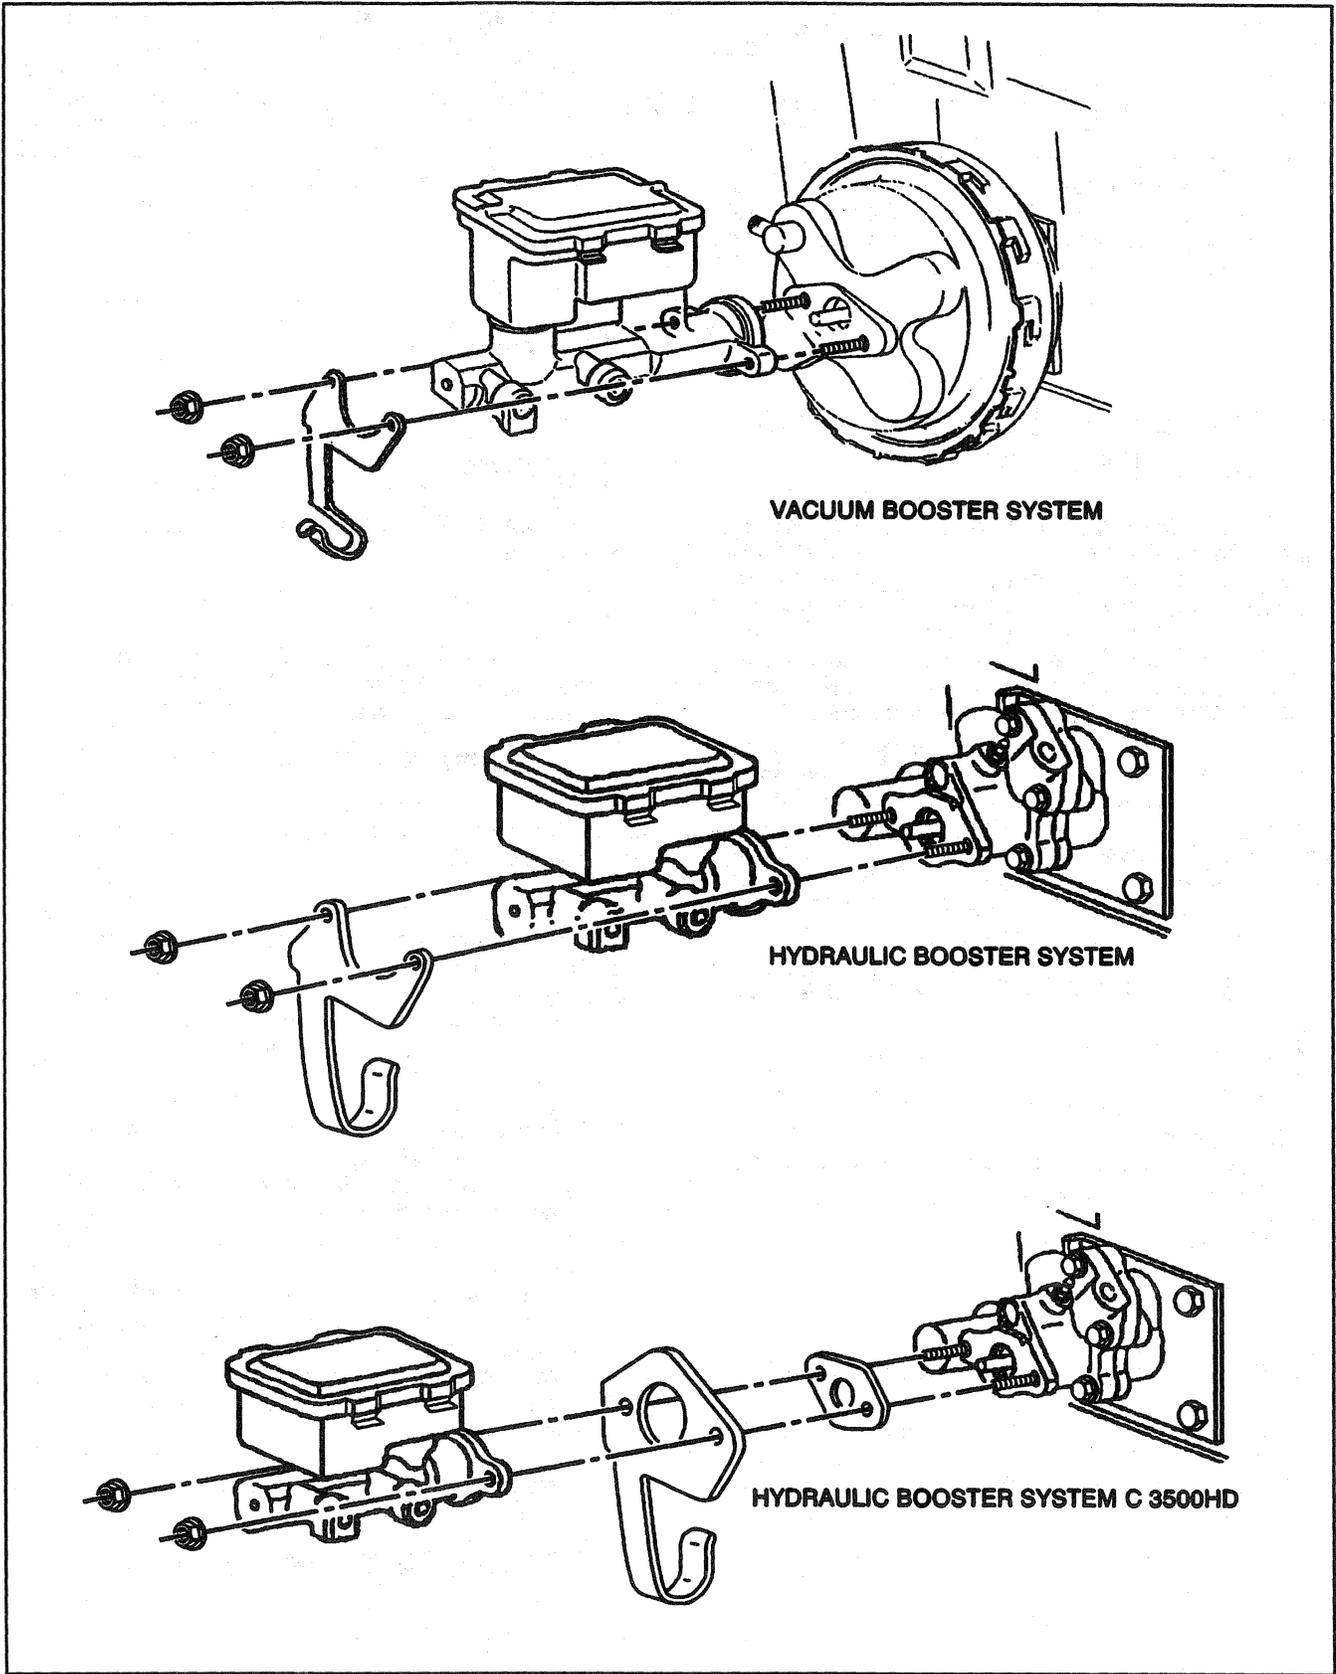

Figure 2—Master Cylinder
MASTER CYLINDER ASSEMBLY **Remove or Disconnect (Figure 2)**
**Install or Connect (Figure 2)**